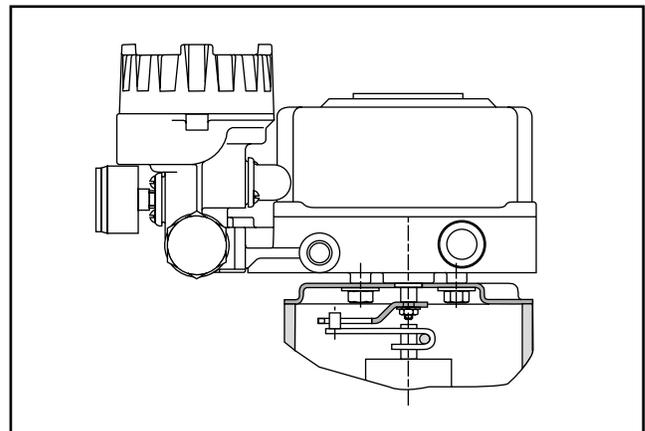

Figure 3: Positioner mounting
5. Place follower pin (mounted to the lever that is mounted to the valve shaft) into follower arm slot and bolt the transfer case plate in place finger tight only. See Figure 3.